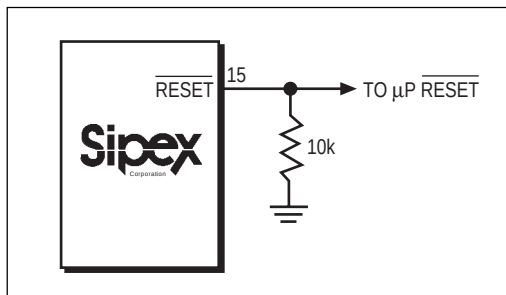

Figure 4. Adding an external pull-down resistor ensures $\overline{\text{RESET}}$ is valid with V_{CC} down to GND.
1.6mA at $V_{OUT} - 0.5\text{V}$. When no backup battery is used, RESET output is valid down to $V_{CC} = 1\text{V}$, and an external 10k Ω pull-down resistor on RESET ensures that RESET will be valid with V_{CC} down to GND as shown on Figure 4. As V_{CC} goes below 1V, the gate drive to the $\overline{\text{RESET}}$ output switch reduces accordingly, increasing the $r_{DS(ON)}$ and the saturation voltage. The 10k Ω pull-down resistor ensures the parallel combination of switch and external resistor is 10k Ω and the output saturation voltage is below 0.4V, while sinking 40 μA . When using a 10k Ω external pull-down resistor, the high state for the $\overline{\text{RESET}}$ output with $V_{CC} = 4.75\text{V}$ is 4.5V typical. For battery voltages greater than or equal to 2V, RESET remains valid for V_{CC} between 0V and 5.5V. RESET will be asserted during the following conditions: